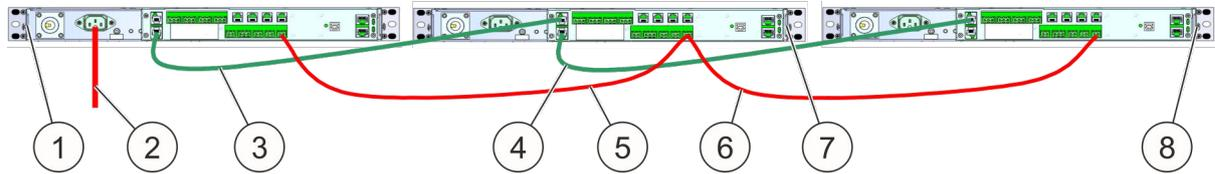

Fig. 38: Energy supply and data line
1. ➤ Connect the mains supply (Fig. 38/2) of 100 – 240 V/AC to the Master (Fig. 38/1).
2. ➤ Establish the power supply (Fig. 38/5) between Master and first Slave (Fig. 38/7). See also Chapter 5.3.6 “Power supply” on page 31.
3. ➤ Establish the power supply (Fig. 38/6) between first Slave and next Slave (Fig. 38/8).
5. ➤ Connect the *CAN bus connecting cable (Master/Slave)* (Fig. 38/3) between Master and first Slave.
6. → Connect the *CAN bus connecting cable (Master/Slave)* (Fig. 38/4) between first Slave and next Slave.